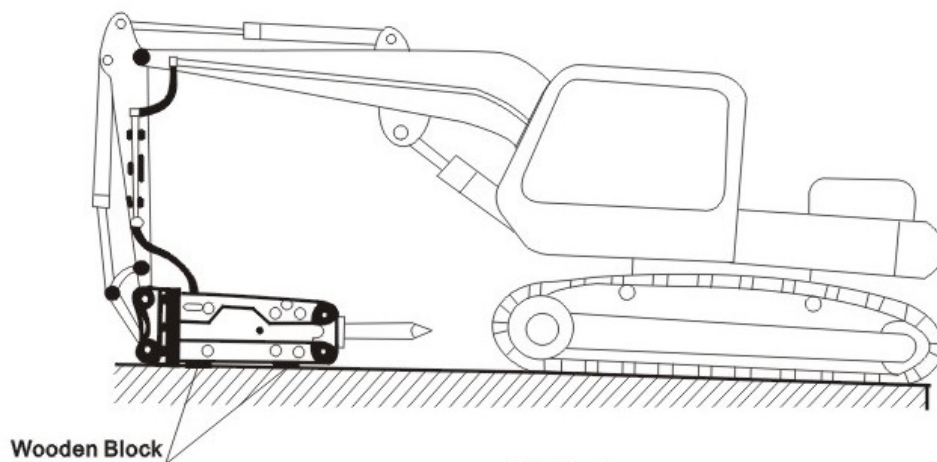

Fig 5-1
1) Choose a smooth and clean place, better in the repairing shop; after the excavator is driven in, turn off the engine and master switch. After that, if the pressure of excavator hydraulic oil tank is high, then release the pressed air in the tank. Then place the excavator according to Figure 5-1. This makes it very easy to replace breaking hammer and bucket.